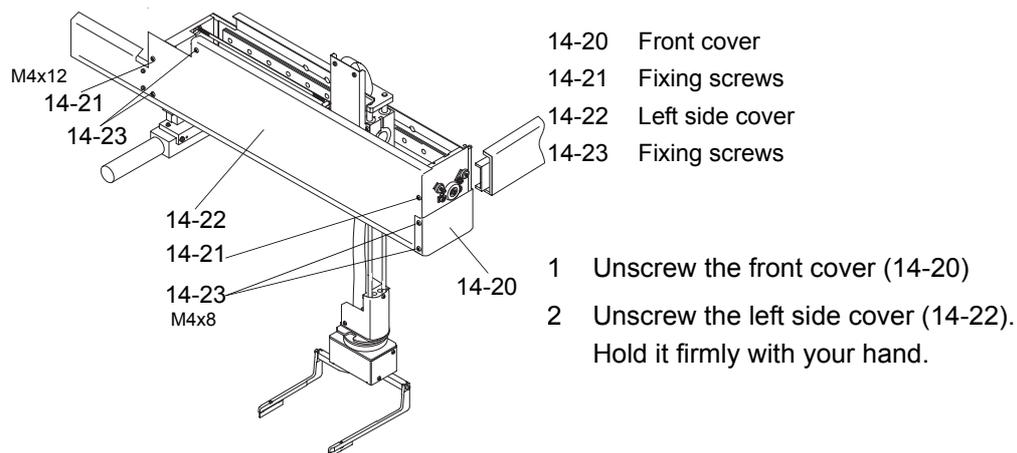

Figure 6-112 Removing the covers
- 2 Remove left side cover (14-22, see Figure 6-112, 'Removing the covers').